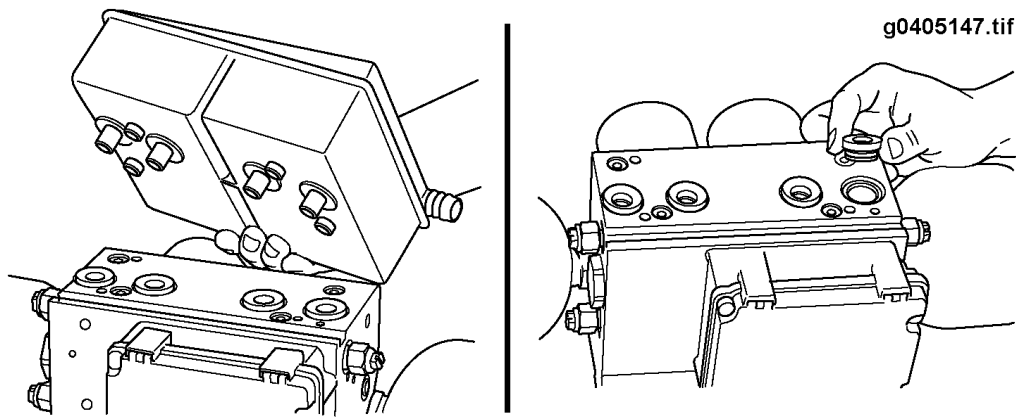

Figure 47 HCU Reservoir and Reservoir Seals
5. Lift the reservoir off of the HCU. Some resistance will be felt due to the rubber seals between the HCU and the reservoir. Refer to FIGURE 47.